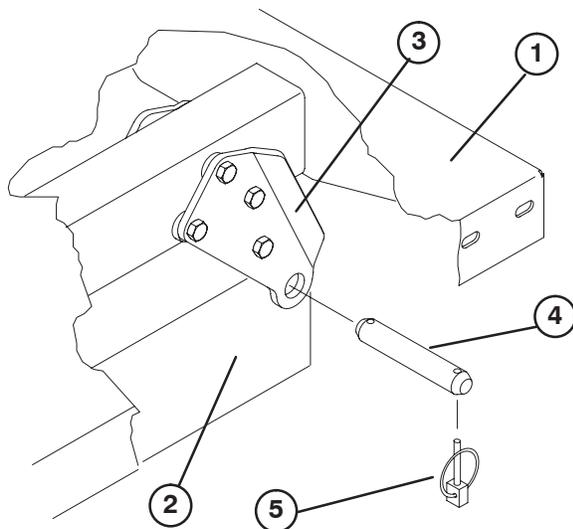

Figure 10
- Remove clevis pins securing cylinder rod ends to bed mounting plates by pushing pins towards inside (Fig. 10).
4. Remove lynch pins and clevis pins securing pivot brackets to frame channels (Fig. 10).
Note: Assure rear pivot plates are bolted to the bed frame/channel so that lower end angles to the rear (Fig. 10).
2. Carefully set bed onto vehicle frame aligning rear bed pivot plate holes with holes in rear frame channel and install (2) clevis pins and lynch pins (Fig. 10).
3. With bed lowered, secure each cylinder rod end, to appropriate slots in bed mounting plates with clevis pin and lynch pin. Insert clevis pin from outside of bed with lynch pin toward outside (Fig. 10). Rear slots are for full bed installation and front slots are for 2/3 bed installation.